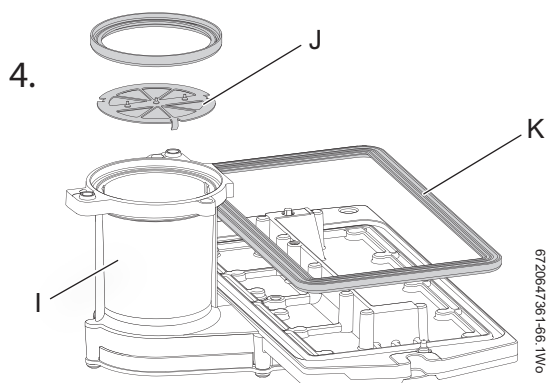

Fig. 64 Diaphragm
- Remove the burner (H).
- Ensure that a new seal (K) is used, refer to fig. 64.